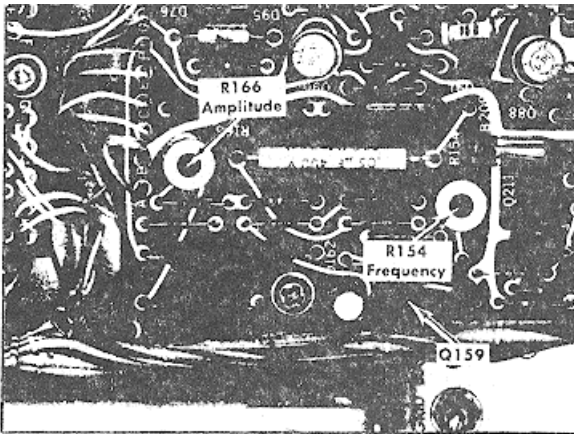
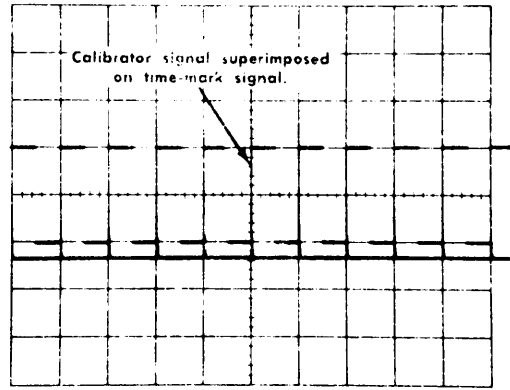

Fig. 5-16. Location of Calibrator controls.
Fig. 5-17. Typical CRT display showing correct calibrator repetition rate.
- c. ADJUST--R166, Amplitude (Fig. 5-16) for meter reading of exactly +40 volts.
- d. Remove Q159 (Fig. 5-16) and check the remaining calibrator voltages as listed in Table 5-2. Connect a 50 ohm termination to the CAL OUT connector when checking the 0.2 V, 20 mV and 2 mV positions of the CALIBRATOR switch.
CHECK--One cycle of calibrator waveform for each marker (see Fig 5-17). The error in 10 major divisions must be ≤ 0.5 minor divisions (the positive transition of the square wave at the right hand edge of the graticule must be no more than 0.5 minor divisions (1 mm) from the positive transitions of the corresponding time marker. **Disconnect the time -mark generator and proceed to step 20.**
- ADJUST--R154, Frequency (Fig. 5-16), for one cycle of calibrator waveform for each marker. See Fig. 5-17 (Since the sweep was calibrated in step 4, the display should also be one cycle of calibrator waveform for each major division.)